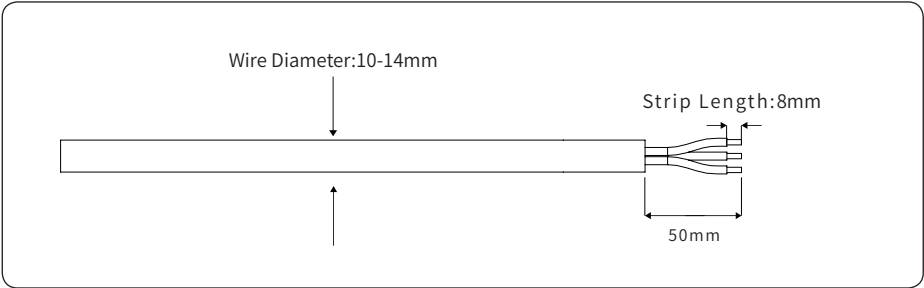

Figure 4-14
2) According to the table above, select an appropriate cable, peel the insulation sleeve of AC cable off for 50mm, and peel off the end of L /PE / N wires for 8mm, as shown in Figure 4-14: